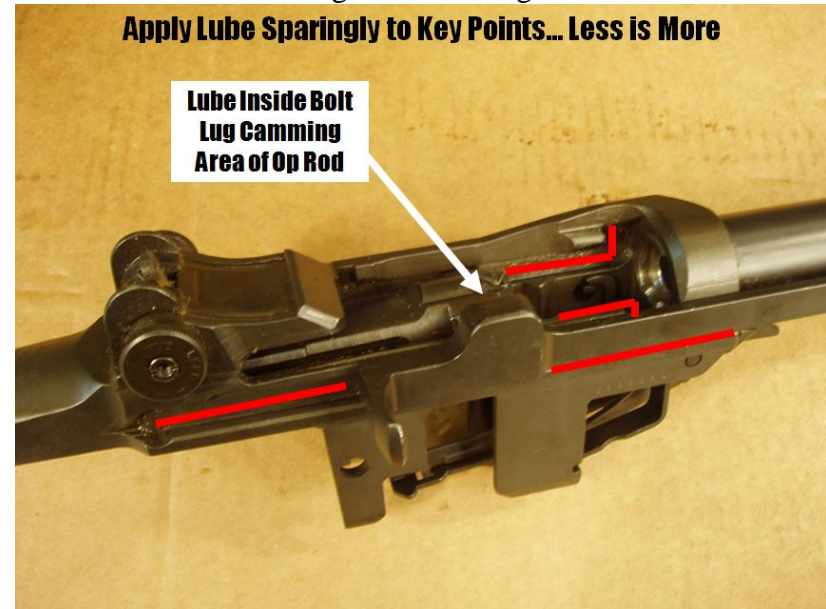

Figure 61. Lubrication
- 1) Lubricating gun oil or grease is used for lubricating the rifle at normal temperatures. It should be applied to the areas shown in Figures 61 through 64: